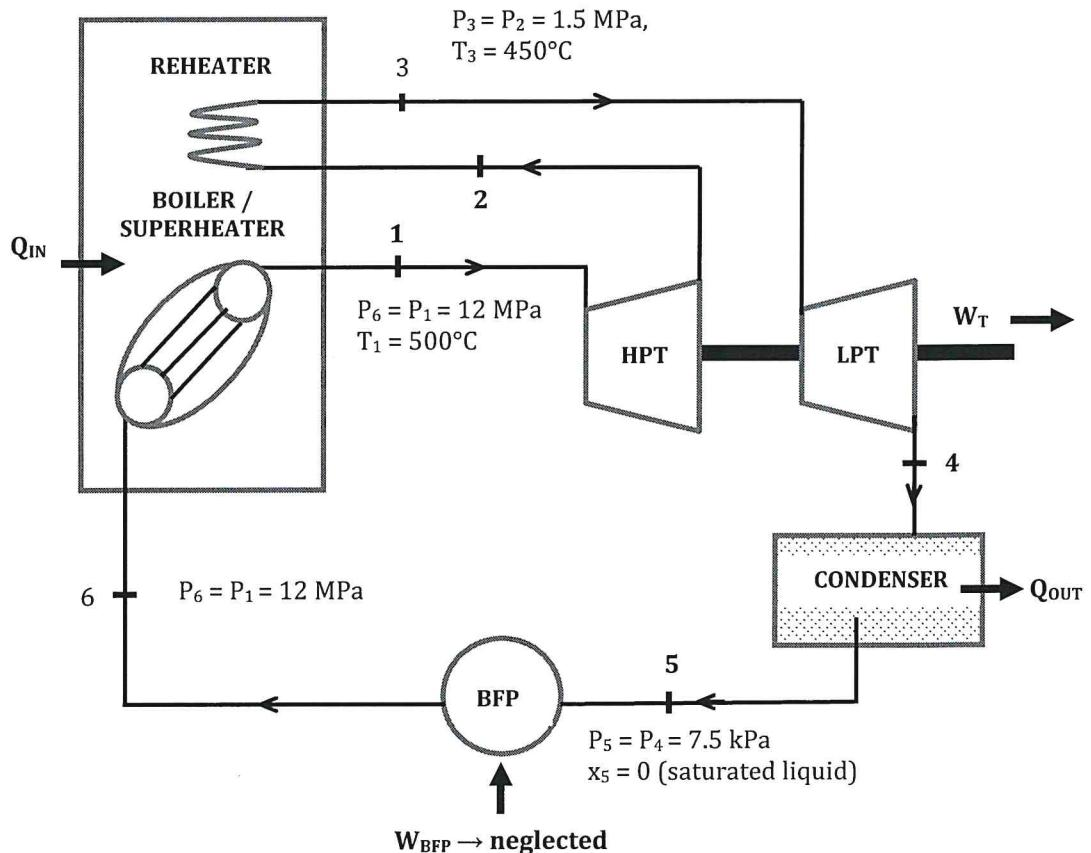

Figure 1c: Process Flow Diagram
- (c) A steam power plant operates on an ideal reheat Rankine cycle that uses water as the working fluid. As shown in the process flow of **Figure 1c**, the conditions at the inlet to the high pressure turbine stage are 12.0 MPa and 500°C at a rate of 27000 kg/hour. The exhaust steam from the high pressure turbine at 1.5 MPa is reheated to the temperature of 450 °C and then is expanded in the low pressure turbine to the condenser pressure of 7.5 kPa. Work done on the boiler feed-water pump is neglected.